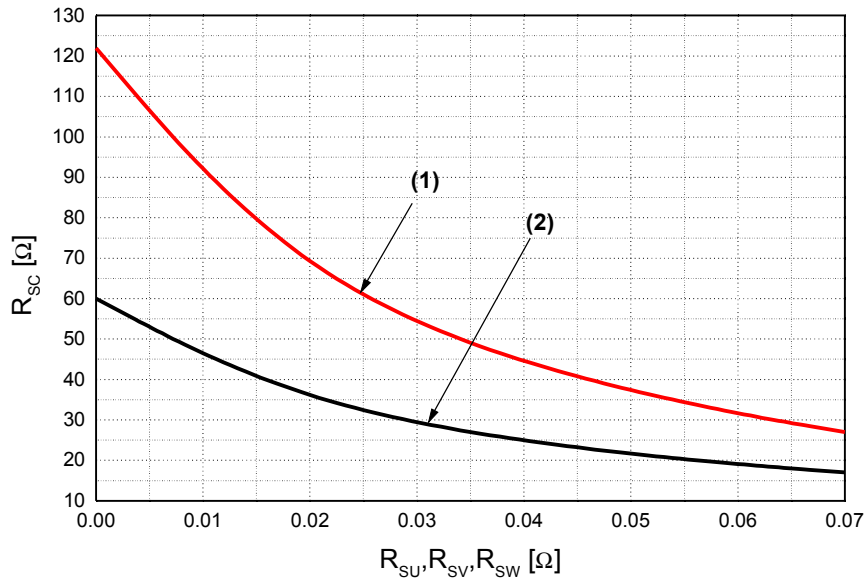

Fig. 7. R_{SC} Variation by change of Shunt Resistors (R_{SU}, R_{SV}, R_{SW}) for Short-Circuit Protection
| Sensing Voltage of IGBT Current | V _{SEN} | R _{SC} = 60 Ω, R _{SU} = R _{SV} = R _{SW} = 0 Ω and I _C = 30A (Note Fig. 7) | 0.45 | 0.51 | 0.56 | V | |
- Short-circuit current protection is functioning only at the low-sides. It would be recommended that the value of the external sensing resistor (R_{SC}) should be selected around 60 Ω in order to make the SC trip-level of about 30A at the shunt resistors (R_{SU}, R_{SV}, R_{SW}) of 0Ω. For the detailed information about the relationship between the external sensing resistor (R_{SC}) and the shunt resistors (R_{SU}, R_{SV}, R_{SW}), please see Fig. 7.